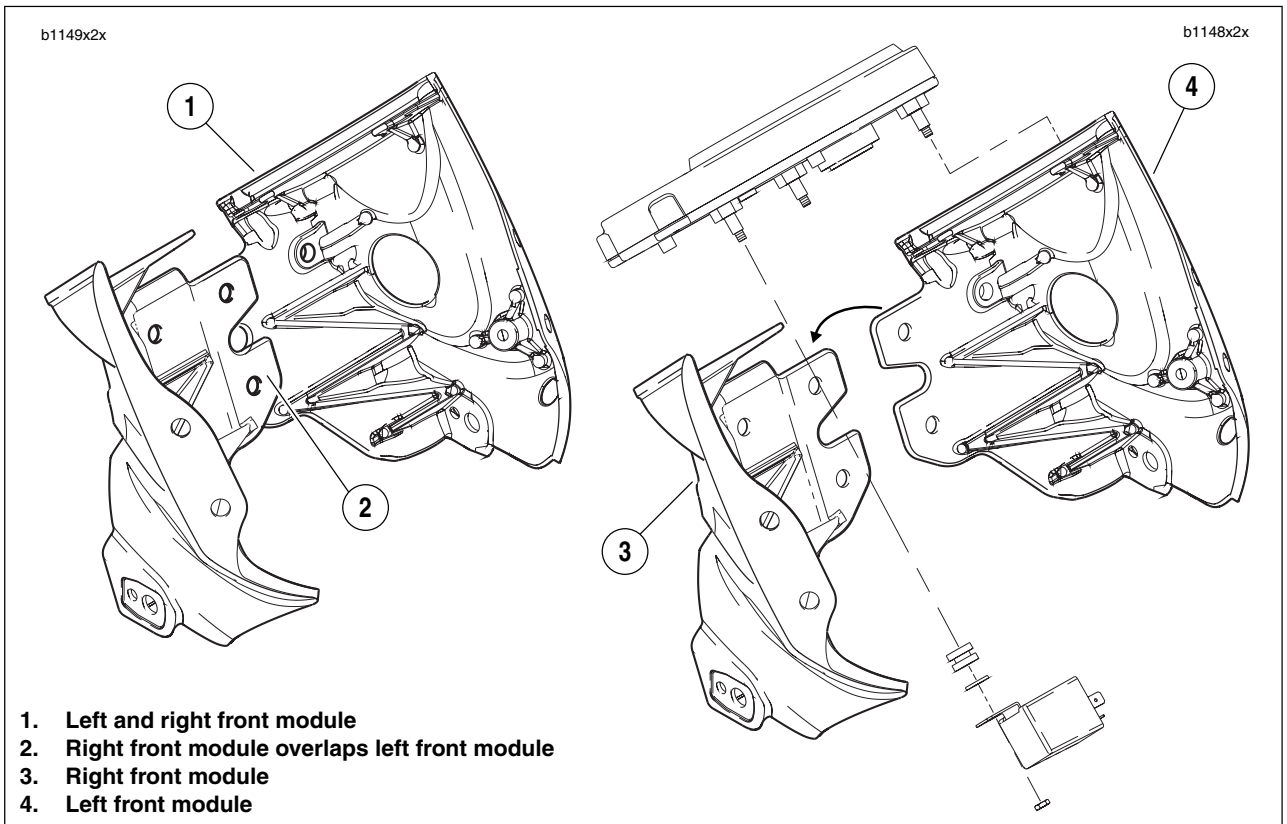

Figure 2-99. Fairing Support Bracket Assembly
See Figure 2-99. Once the clamp load has been released on the final fastener securing the right front module to the upper triple clamp, the left front module can be removed.
9. See Figure 2-99. Remove the left front module.